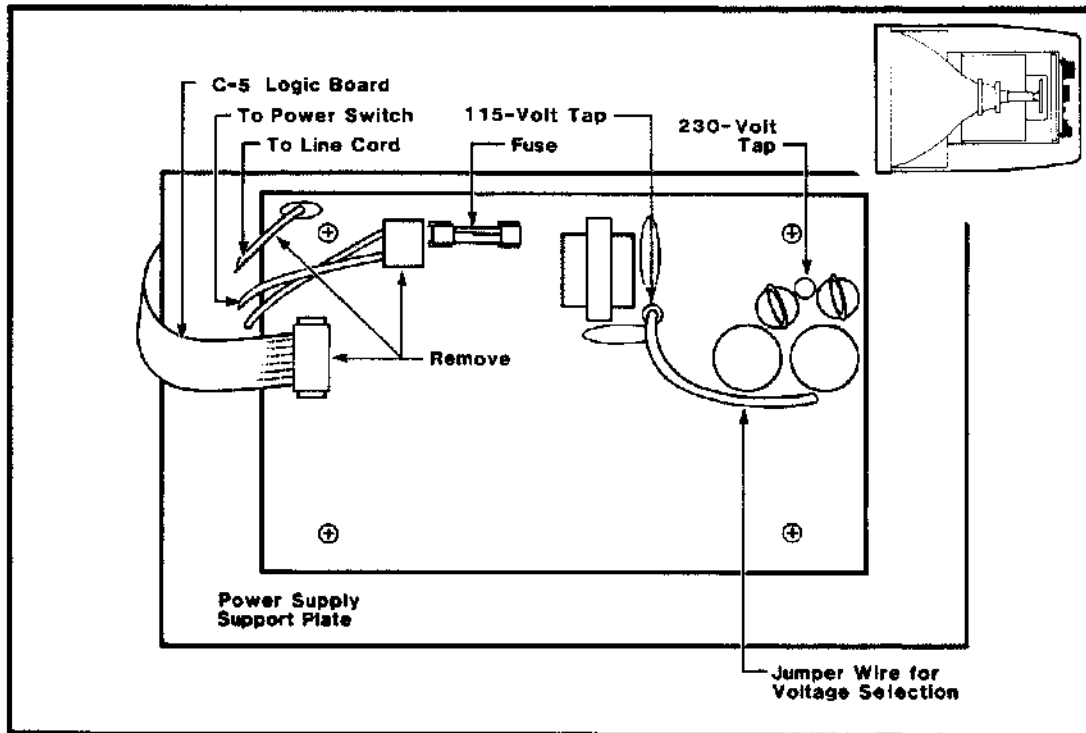

Figure 6-4: REMOVING THE C-5 POWER SUPPLY
2. Remove the three power connectors from the power supply by gently lifting up on each connector housing (Figure 6-4). Mark the orientation of each connector so that you can replace it correctly.